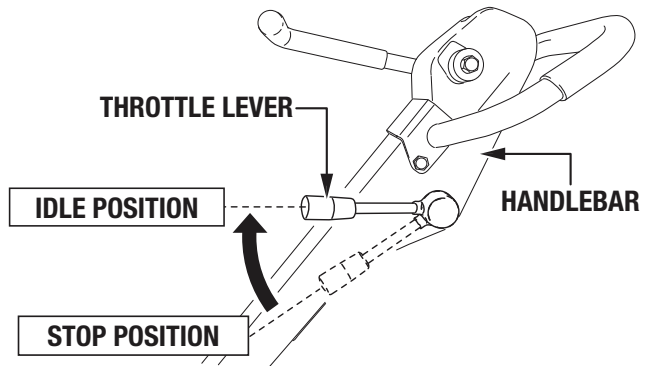

**Figure 41. Tachometer/Hour Meter (Rotational Speed)**
- Once the engine starts running, the tachometer/hour meter will display **rotational speed (RPM)**. See Figure 41.